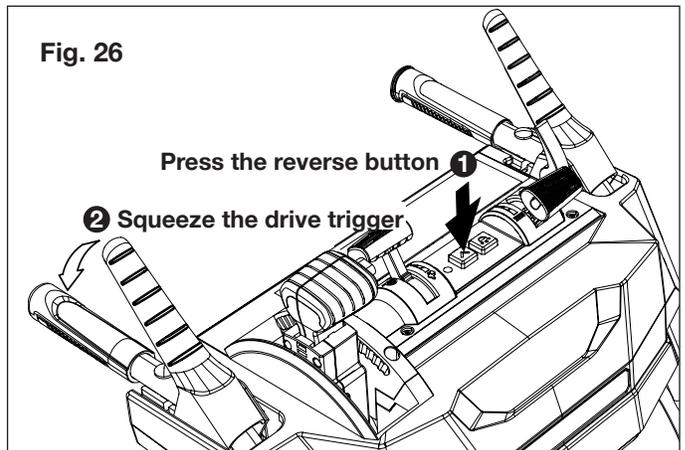

Fig. 26
2. Press the reverse button, the reverse indicator LED will light up to indicate that the machine is in reverse mode (Fig. 26).
3. Squeeze drive trigger against the right-handle and the snow blower will move backward (Fig. 26).